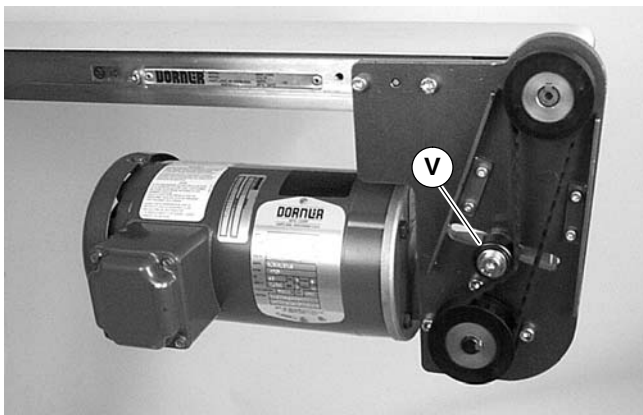

Figure 17
2. Loosen tensioner (V of Figure 17).